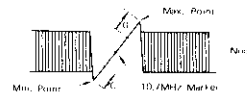

Figure 8
- (b) Adjust black core and red core of T201 to obtain the wave form as shown in Figure 8.